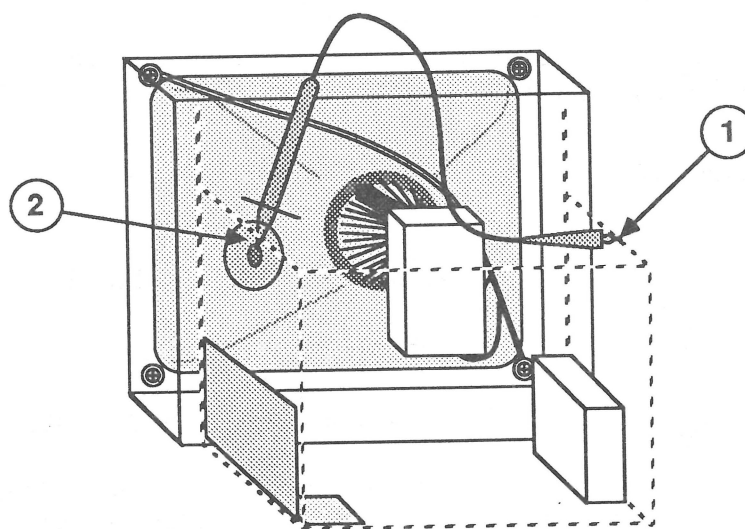

FIGURE 2
3. Attach the clip of the CRT discharge tool to any part of the metal chassis that surrounds the back of the CRT (Figure 2, #1).
5. Slide the CRT discharge tool under the anode cap (Figure 2, #2) and push it toward the center of the cap until the probe touches the metal anode ring.